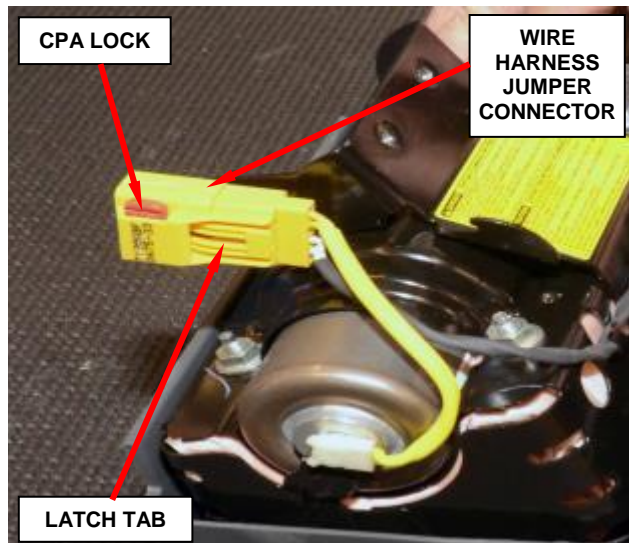

Figure 19 – Wire Harness Jumper
- a. Slide the red Connector Position Assurance (CPA) lock on the connector toward the side of the connector (Figure 19).